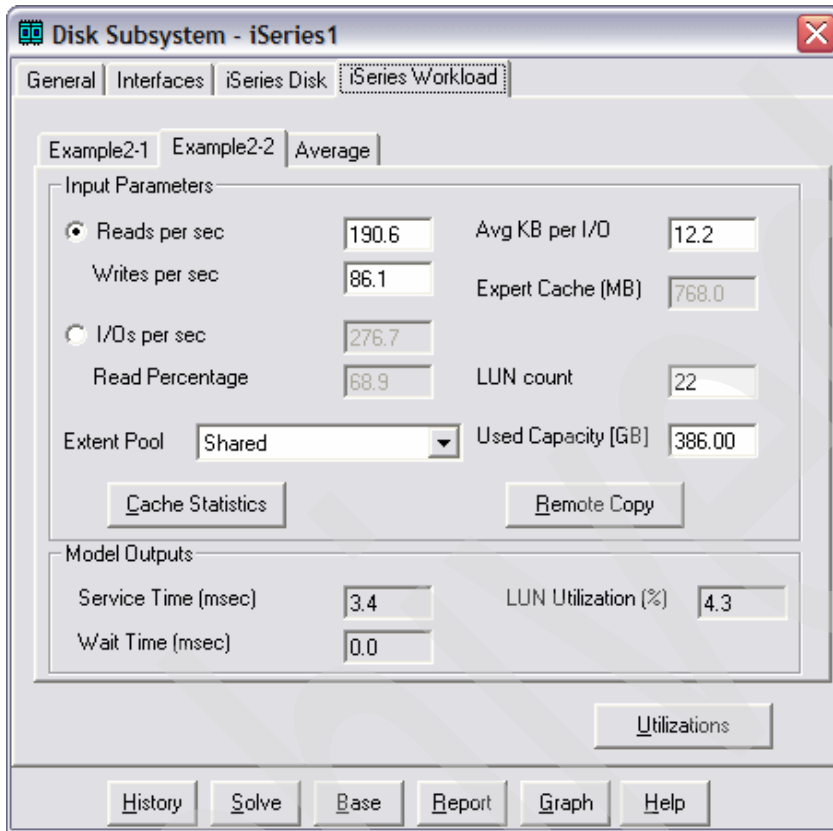

Figure 4-66 Modeled service time and wait time for the second workload
- m. Click the tab with the name of second workload, which in this case is Example2-2. Notice the modeled disk service time and wait time, as shown in Figure 4-66.